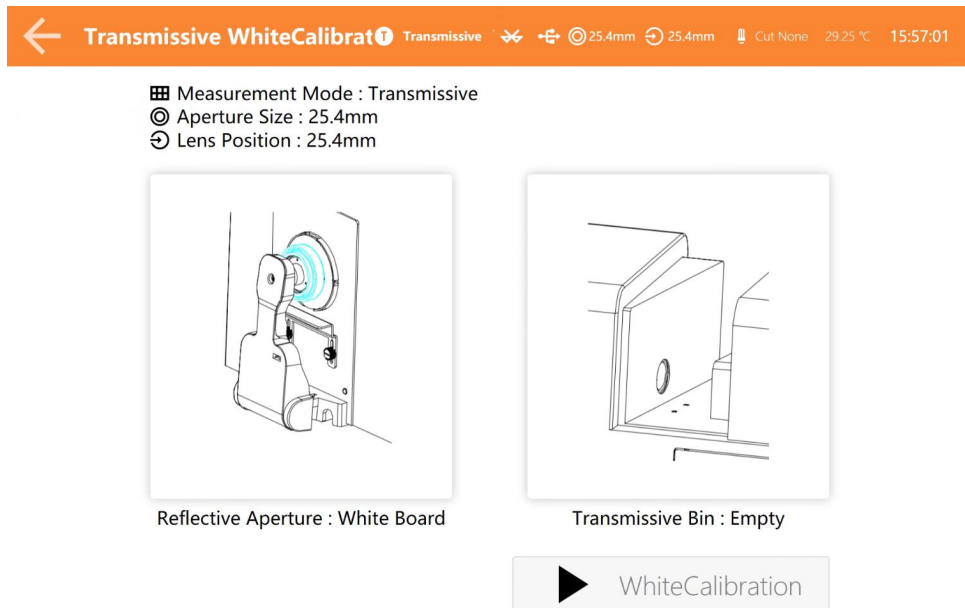

Figure 9 Transmissive White Calibration
2. After finishing transmission black calibration, enter transmissive white calibration page(Figure 9), take out the black plate, place the white calibration reference according to instruction, ensure it stick to the side of integrating sphere tightly, close the bin cover, and click “White Calibration” to start calibration.